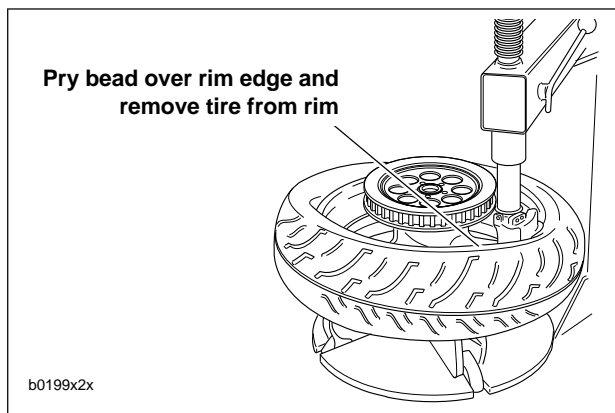

Figure 2-31. Starting Tire Off Rim
5. See Figure 2-31. Push lower bead into rim well on one side and insert tire tool underneath bead from opposite side. Pry bead over rim edge. Remove tire from rim.